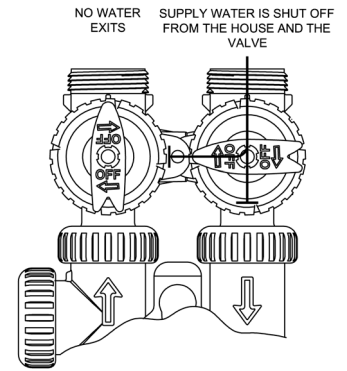

Figure 20::
- 4. Shut Off Position:** The inlet handle points to the center of the bypass valve and the outlet handle points in the direction of flow, the water is shut off to the plumbing systems. If water is available on the outlet side of the softener it is an indication of water bypass around the system (i.e. a plumbing connection somewhere in the building bypasses the system). (See Figure 20)